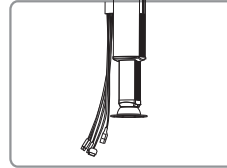
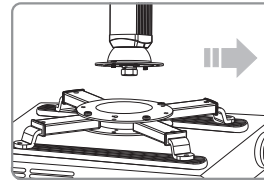
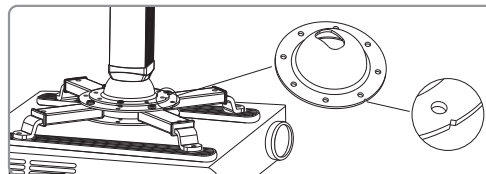

Figure 9
Figure 10
Figure 11
2. Open the back ornament board ③ b, and loosen the screws of subsidiary arm④ . Please adjust the subsidiary arm④ to your desired position (this function is only for B200、B300), and then fasten the screws again. Please hide the power line into the gap and close the back ornament board ③ b. Figure 9 and Figure10.
1. According to figure 10 and figure 11, please adjust the groove of half-cycle junction to be consistent with the direction of the projector. The positioning bar of GPC half-cycle junction must be align to the groove of GPC projector fixation, and then circumrotate for fastening. Finally, connect GPC half-cycle junction⑤ and GPC projector fixation using with two M4x5 pressing screws.